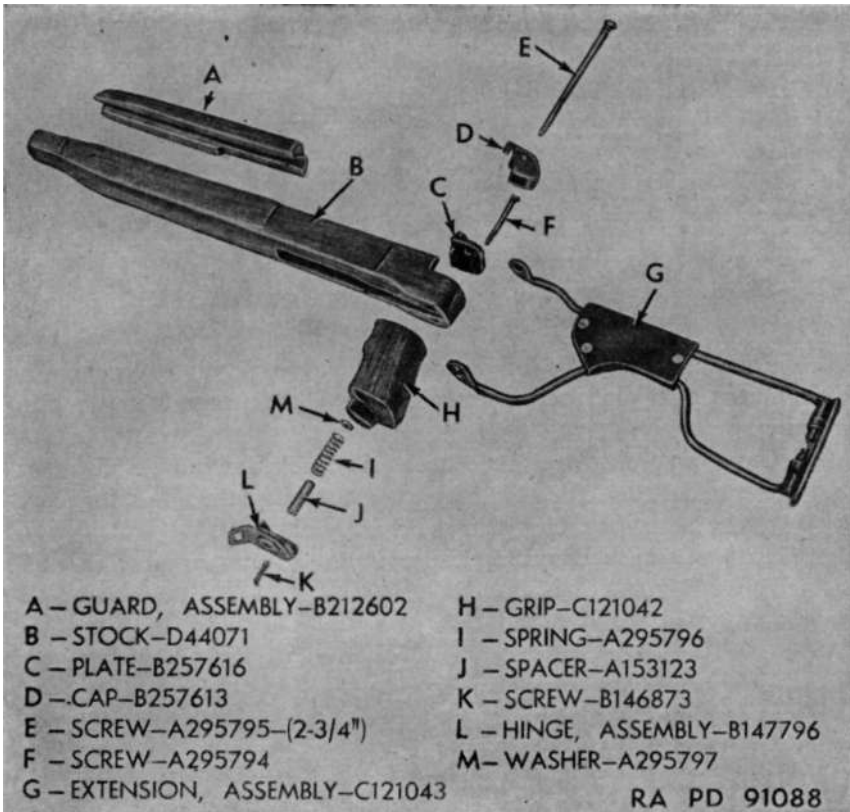

Figure 58. Stock extension group parts — carbine, cal. .30, M1A1.
(2) With stock extension in extended position, unscrew the hinge screw projecting from the upper face of the recoil plate cap, by turning counterclockwise. When screw is disengaged from the lower hinge nut, pull screw up and out of grip, and then lift off recoil plate cap and lower hinge. (See fig. 58.)
(3) With flat-ended punch, push hinge screw spacer out of hole in the lock on end of lower bar, up into coil spring. Then pull stock extension to rear from stock and remove grip spring, hinge screw spacer,
(11) Inspect hinge on upper bar for deformation and cracked welding, and lock on corresponding end of lower bar for deformation, cracked welding, and worn locking lug (fig. 58). The proper mating of lock and nut determine the rigidity of the stock extension when extended or folded. Angle of lock faces should correspond to that of the nut. Wear of lock or nut will cause improper locking and looseness.
(12) Inspect bars for deformation. They should lie in the same vertical plane when assembled.
(13) Inspect butt plate for smooth pivoting on rod ends, for spring action with spring assembled, and for cracks.
(14) Inspect butt plate spring for tension, excessive deformation, and broken or bent ends.
(15) Inspect cheek rest plate and retaining plate (fig. 58) for deformation and looseness with each other on the bars when assembled. Inspect rivets for looseness and protrusion of heads. Inspect cheek rest cover for scoring and cracking of leather. Cheek rest plate should be held tightly to rods by retaining plate and rivets, and leather cover should be smooth, so it will not scrape face of operator.
*b.* RECOIL PLATE (EXCEPT M1A1.) (1) If escutcheon has been removed, insert small end first in seat in lower face of stock grip. Tap in until seated level and flush with stock.
(2) Insert recoil plate into rear of receiver aperture in stock with bevel face up and tang to rear. Recoil plate must be inserted from front to rear and held level during insertion, so that seating lug and horizontal recess mate. Seat recoil plate evenly and flush with recess in stock by tapping lightly. Replace recoil plate screw through top of recoil plate and stock grip, thread into escutcheon, and draw down part way. Then assemble barrel and receiver group to stock, align, and draw screw down tight. This prevents a strain on the parts (par. 11f).
*d.* STOCK EXTENSION (M1A1) (fig. 58). (1) If the grip and recoil plate have been removed, replace them by fitting grip to rear, under face of stock, just behind trigger guard opening so that projection on grip points downward and trigger guard bow will fit into forward face of grip when assembled. Then seat recoil plate on top of rear end of stock with undercut lug facing forward. Align screw holes in plate and stock, insert grip screw, and screw down tightly, turning clockwise, to secure recoil plate, stock, and grip firmly together.
(2) Place grip spring washer in large counterbored hole in lower end of grip and seat grip spring in hole upon washer. Then grasp stock extension so that locking lug on lower bar faces downward and place upper face of lock against lower end of grip spring. Hold in position firmly and press upward on lock against spring pressure until hinge on upper (straight) bar will slip over and lie upon top of recoil plate. Still holding lock in position with regard to spring, align hole in spring and lock, and insert hinge screw spacer until flush with lower face of lock.
(3) Position recoil plate cap over recoil plate and upper hinge so that it rests flat on hinge and recoil plate. Insert hinge screw through hole in cap and push downward through hinge, recoil plate, stock, grip, grip spring washer, grip spring, spacer, and lock on lower bar. Be sure screw is pushed down until upper shoulder on screw has entered the hole in upper hinge and is not bearing on cap, or top of hinge.
(4) Position lower hinge assembly over lock so that locking lug slot in nut mates with locking lug on lock, and sling eyelet faces forward. Then, press nut and lock upward against force of grip spring and turn hinge screw until threads on hinge screw catch threads in nut. (Be sure spacer is flush with lower face of lock before attempting to catch threads.) Turn screw so that nut pulls lower hinge upward until lower hinge shell is resting firmly upon lower face of grip.
(5) Insert lower hinge screw in lower end of stock grip and turn in